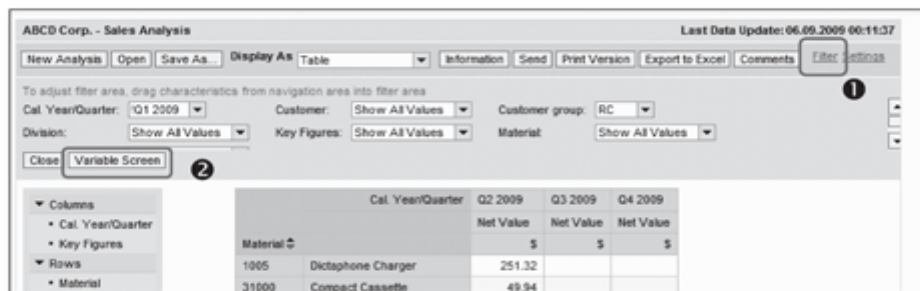

Figure 10.55 Analysis Filters
Apart from all of the navigation options discussed previously, if you also want to work with the multiple filters applied to the data, a detailed filters view is available after you click on the Filter link (❶ of Figure 10.55). This action displays all of the characteristics and structures used in the query, and you can specify the filter on the displayed data. The Variable Screen button (❷) calls the variable selection screen and allows you to change the variable selection for the query.